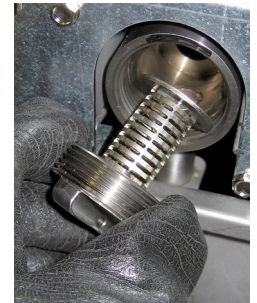

Figure 3
2. Use a small brush to clear debris from the attached screen (**Figure 3**).